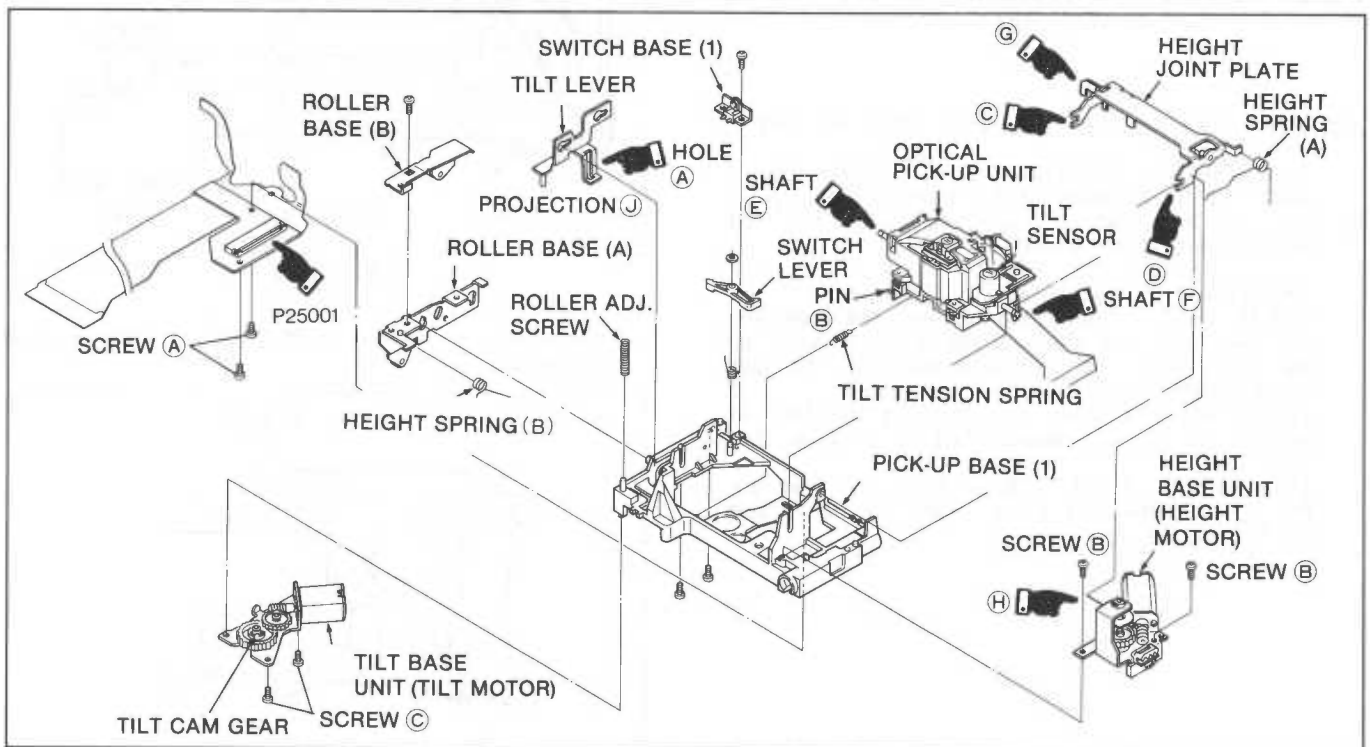

Fig. R20
- To replace the Tilt Motor Unit, perform item 1 and 2 of Replacement of the Optical Pick Up .
- Remove 2 screws (C) and take out the Tilt Motor Unit as shown in Fig. R20.